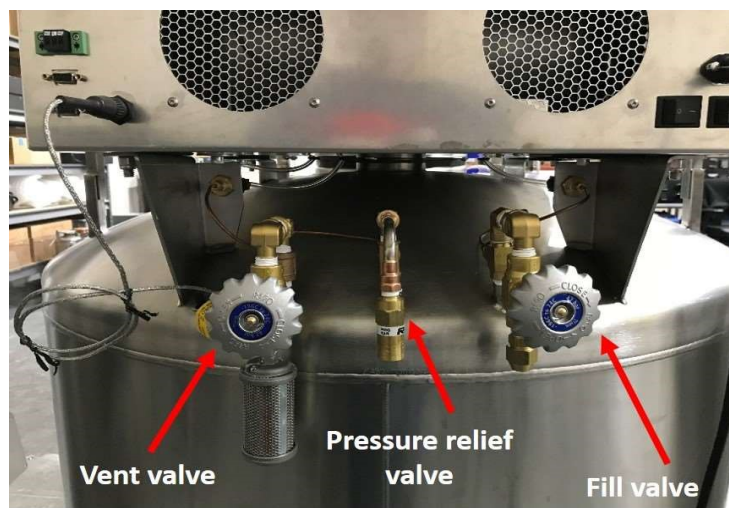

Figure 17: Vent and Fill Valve
8. Remove the phase separator (if used) from the end of the transfer line, then connect that end to the Fusions inlet port (refer to Figure 17).
11. Open the vent valve on the Fusion (refer to Figure 17). This will prevent over pressurization and lifting the relief valve during the filling process. **Note: The Fusion pressure vessel is shipped with a small amount of low-pressure, gaseous nitrogen, thus when the vent valve is opened an audible venting noise may be heard.**
12. Open the fill valve on the Fusion (refer to Figure 17). Both the fill and vent valves will remain open until the Fusion freezers pressure vessel is filled with LN2.